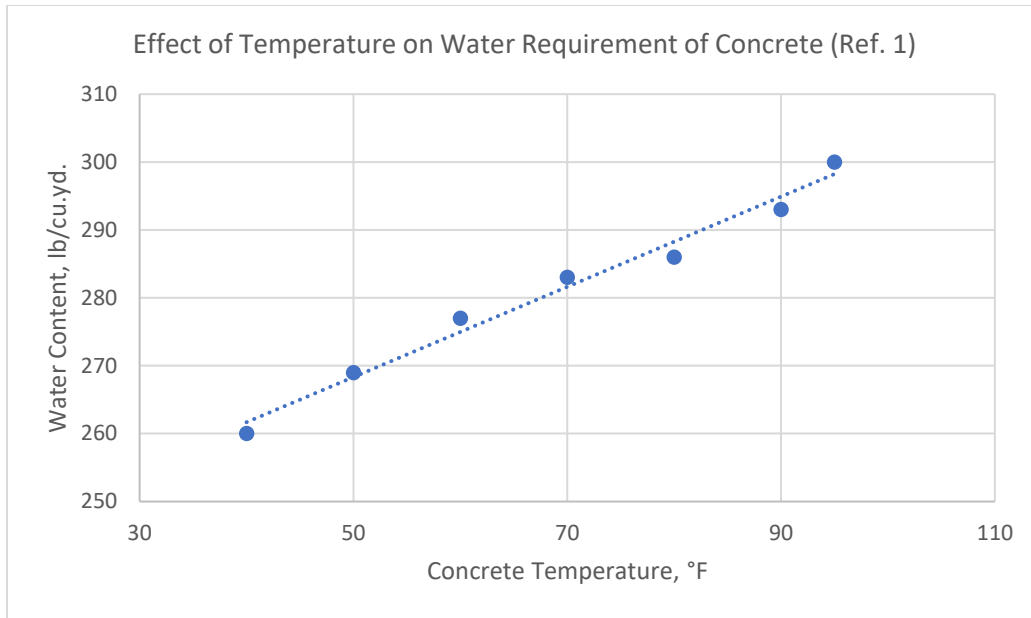
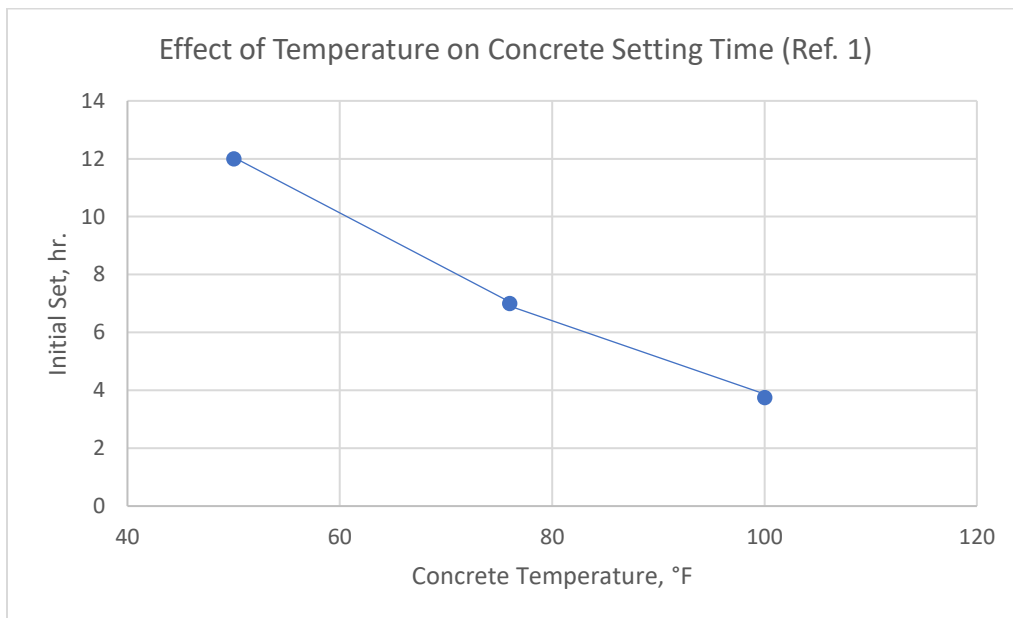

Figure 1: Example of Concrete Temperature Effects on Water Requirements2
Figure 2: Example of Concrete Temperature Effects on Setting Time
- Workability – slump or workability decreases as temperature increases [Fig 1]
- Set time – set time decreases as temperature increases [Fig 2]
2 Fig. 1 and Fig. 2 National Ready Mixed Concrete Association CIP 12 - Hot Weather Concreting. *Concrete in Practice - What, Why, How?* Retrieved December 18, 2018, (2000) from <https://www.nrmca.org/aboutconcrete/cips/12p.pdf>.